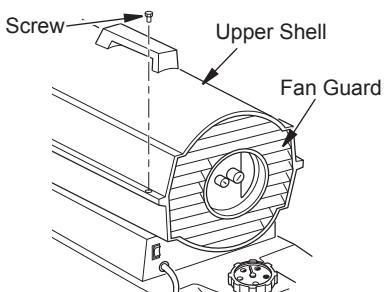

Figure 11 - Upper Shell Removal,
1. Remove screws along each side of heater using 5/16" nut-driver. These screws attach upper and lower shells together. See Figure 11 or 12.
1. Remove upper shell (see Figure 11 or 12).